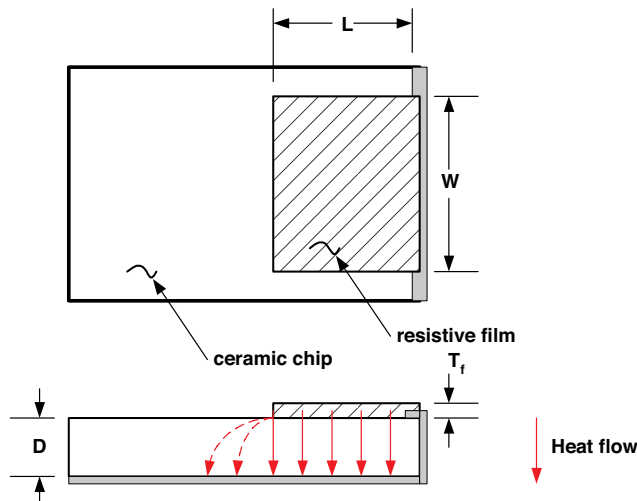

Figure 8: Chip termination showing heat flux
Assuming, from the aging tests, that the designer now knows the maximum film temperature allowable at full applied power, it must now be determined how to insure it is not exceeded -and what limitations it imposes on electrical performance. **Figure 8** shows the heat flux in a chip termination. We begin with three simplifications to establish an elementary thermal model: (1) The heat is generated uniformly everywhere in the film; (2) the heat flow is one-dimensional – no spreading –from the film to the bottom of the chip, which is assumed at ambient (thermal ground); and (3) there is no convective or radiative heat flow. Concerning (1), we know that the currents in the film tend to be edge concentrated – much more so the lower the resistivity – and so there will be more heat generated at the edges than at the center. Nevertheless, we expect the approximation to be quite good for film geometries where the length and width are substantially greater than the substrate thickness and for the range of film resistivities typically encountered in RF applications. Additionally, we are not considering tapers, wherein the width of the film and hence the power dissipated at any cross-section may vary along its length. Concerning (2), it is understood that there is indeed thermal spreading, not only from the front face of the film -heat flow lines shown dotted in **Figure 8** – but from the lateral edges as well. Thus, the second and third assumptions are thermally conservative – there will be additional heat paths beyond those accounted for – while the first will need further investigation since edge-located hot spots could develop at RF that would not be revealed in DC tests.